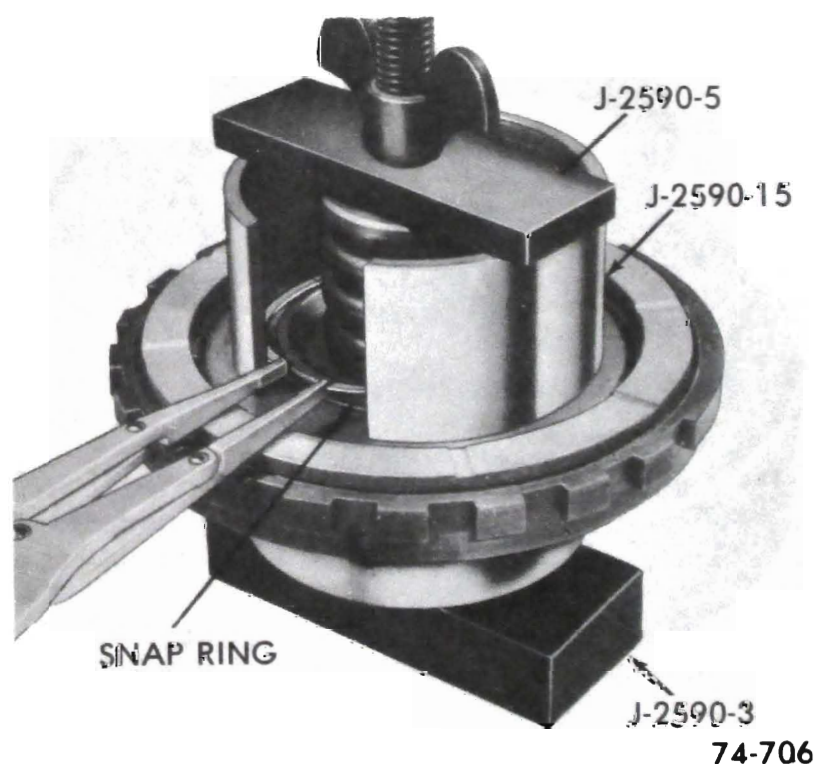

Figure 76-219
2. Using Clutch Compressor J-2590, compress spring retainer and remove snap ring. See Figure 76-219.
6. Using the Clutch Spring Compressor, J-2590, compress the springs and install the snap ring. See Figure 76-219.